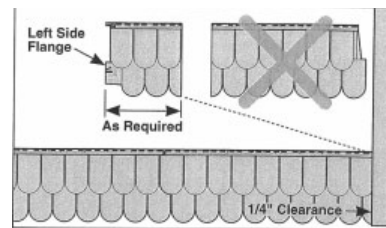

Fig.13
- a. Half-Rounds – Measure appropriate distance from the Left Side Flange of panel (allowing for staggered vertical laps) and cut (see Figure 13)